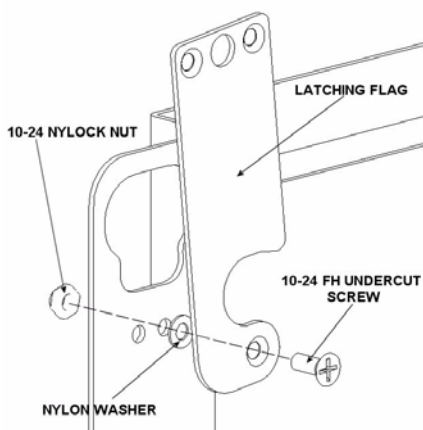

Figure 2
1. Secure latching flag to the inside mounting hole of the mount using the 10-24 Philips screw, nylon washer, and Nylock nut (see Figure 2). Tighten until friction will hold the flag in place.